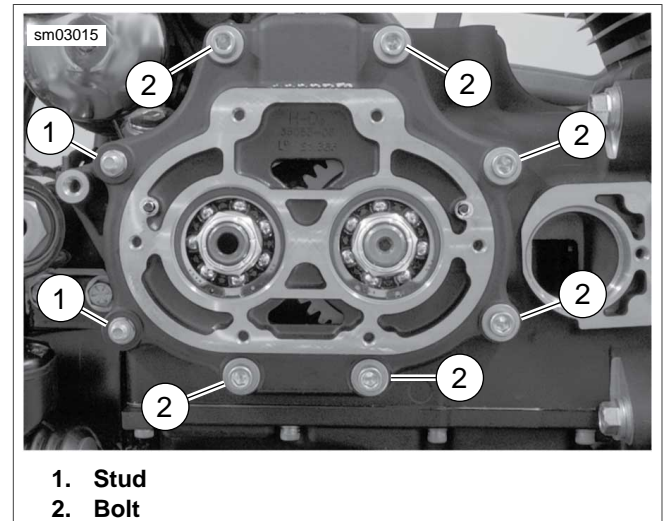

Figure 6-33. Side Door Hardware
6. See Figure 6-33. Using crosswise pattern, tighten all side door hardware (1, 2) to 13-18 ft-lbs (17.6-24.4 Nm).